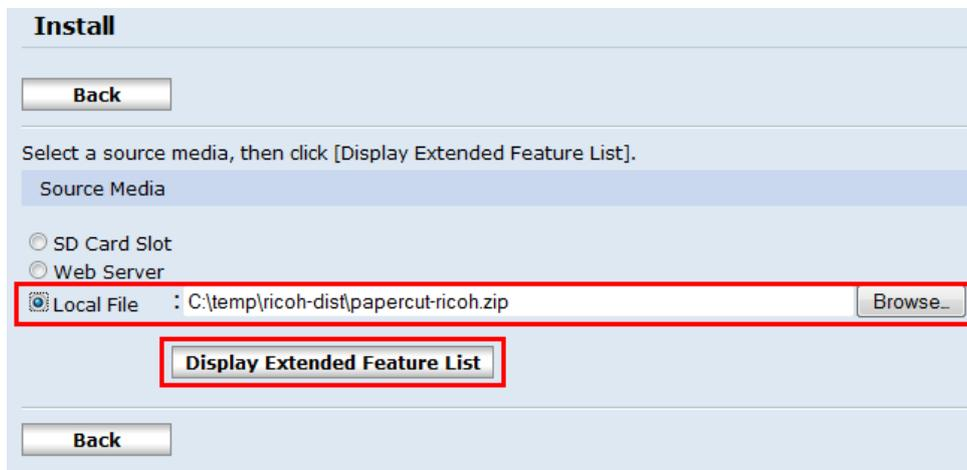

Figure 42: Uploading the application.
3. Select the **Local File** option, then click the **Browse...** button and select the embedded application ZIP file. Then click the **Display Extended Feature List** button (see Figure 42) to upload the file. This may take a minute or two.